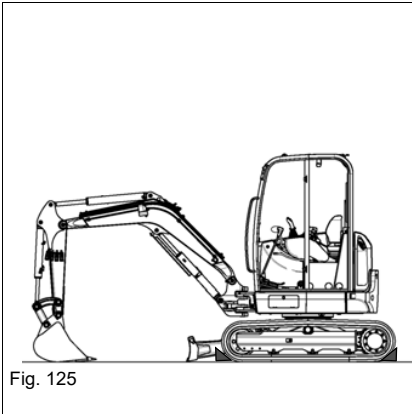

Fig. 125
10. Secure the vehicle with wheel chocks (see Fig. 125).